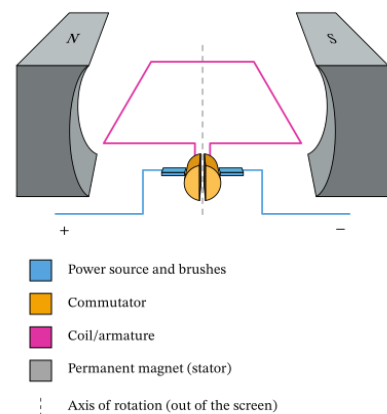

Figure 1. DC motor diagram [1]
Direct current (DC) motors are widely used electric motors in which the rotating armature and field generating wires are connected in series. One important component of DC motors is the brush assembly, which maintains contact with the armature and provides the necessary charge to the rotating armature (Figure 1). The motor's design provides a high starting torque that is often utilized in industrial applications such as cranes, elevators, and automobile starters.